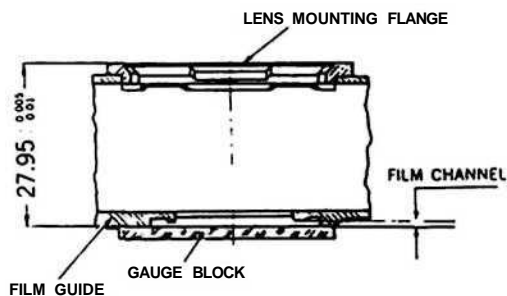

Figure 4-21. Film Plane Measuring Points.
(Fig. 4-21)
- (1) Place the camera housing on the gauge block of gauge set 42-253-01-Z1A76 and rest the outer film guides on the mirror surface (fig. 4-21).
- (2) Measure the distance from the lens flange to the gauge block with the dial gauge. The gauge indicator should read "zero". A tolerance of $+0.005\text{mm}$ or -0.01mm is permissible.